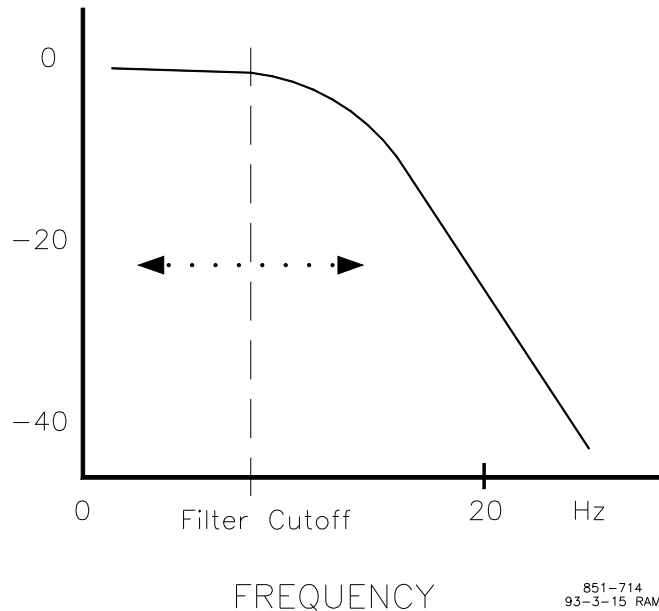

Figure 3-5. Speed Filter
8. **SPEED FILTER** adjusts the cutoff frequency of a low pass filter used on the speed sensing input (see Figure 3-5). To use this feature set **SPEED SETTING MENU - ENABLE SPEED FILTER** to **TRUE**. The filter is used to attenuate engine firing frequencies. To calculate the desired filter cutoff point, use the following formulas: